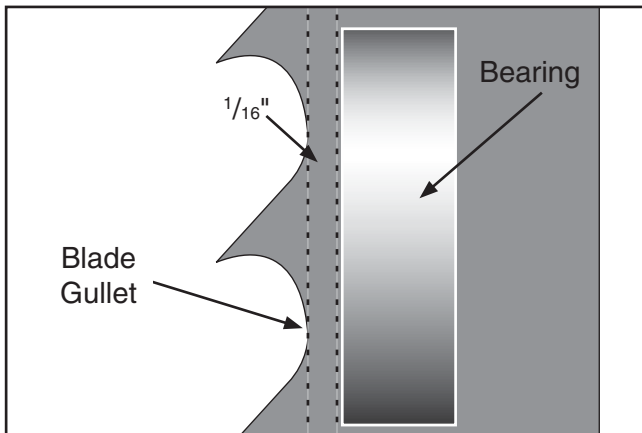

Figure 28. Spacing between bearing and gullet.
6. Loosen the hex bolts on each blade guide bearing shaft and adjust the bearings in or out until the edges of the bearings are $\frac{1}{16}$ " behind the blade gullets as illustrated in **Figure 28**.